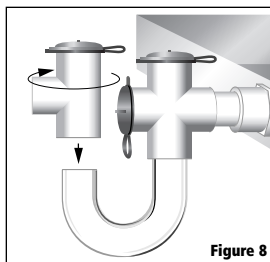

Figure 8
14. Rotate outlet Tee in required direction and glue onto other end of U-Bend so that Red Cap faces up (Figure 8).